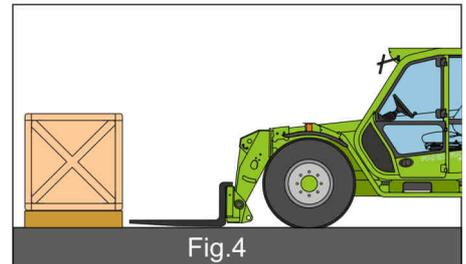
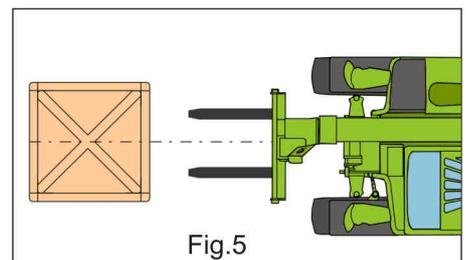

Fig.4
Fig.5
- check that safety pin "B" engages correctly, and goes back to a horizontal position once the forks are coupled; this prevents the forks from accidentally uncoupling. Never use the forks if pin "B" is not back to its safe position (Fig. 4).
- insert locking brackets "C" so as to prevent the forks from sliding sideways (Fig. 5).
- position the machine near the load to be lifted with the telescopic boom completely retracted and the forks in a horizontal position (Fig.4).
- turn the gear change switch (19) to position "N".
- bring the gear change control (19) and gear direction switch (20) to position "N".
- regulate the width and centring of the forks in relation to the load to be lifted (Fig.5)
- tyre pressure and condition (figure 4)
- presence, function and good condition of the safety belt (figure 5)